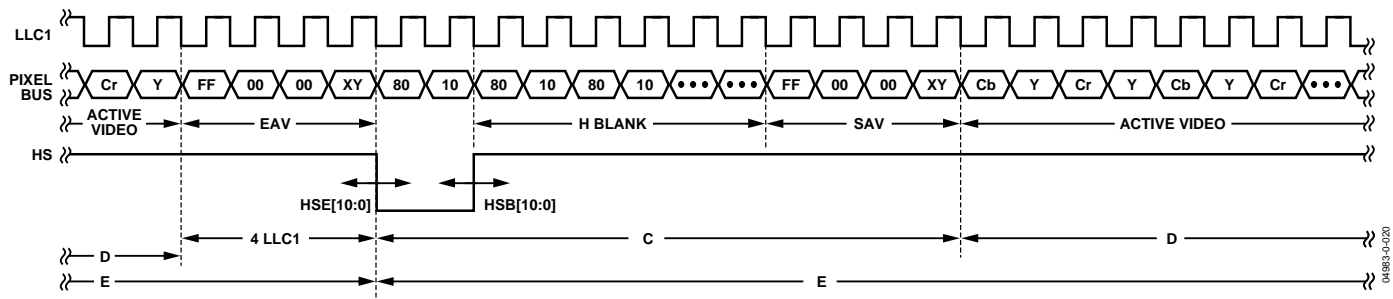

Figure 20. HS Timing
The position of this edge is controlled by placing a binary number into HSB[10:0]. The number applied offsets the edge with respect to an internal counter that is reset to 0 immediately after EAV code FF,00,00,XY (see Figure 20). HSB is set to 00000000010b, which is 2 LLC1 clock cycles from count[0].
The position of this edge is controlled by placing a binary number into HSE[10:0]. The number applied offsets the edge with respect to an internal counter that is reset to 0 immediately after EAV code FF,00,00,XY (see Figure 20). HSE is set to 00000000000b, which is 0 LLC1 clock cycles from count[0].
**Table 54. HS Timing Parameters (See Figure 20)**